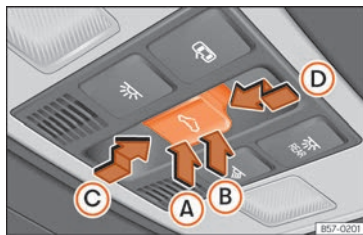

Fig. 81 On the interior roof lining: sunroof button.
The Fig. 81 button has two levels. The first level switches the sunroof to the tilted position, opening or closing it fully or partially.
- Within approximately 5 seconds of having activated the roll-back function, press the **<<< Fig. 81** button to the second level in the direction of arrow **(D)** until the sunroof closes completely.